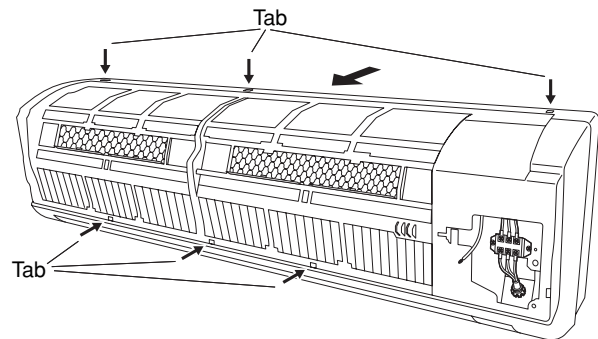

Fig. 18a
- (5) Press the 3 tabs at the top of the grille and the 3 tabs on the front face to separate the grille from the frame. (Fig. 18a)
- (6) Pull the grill toward you to remove it.